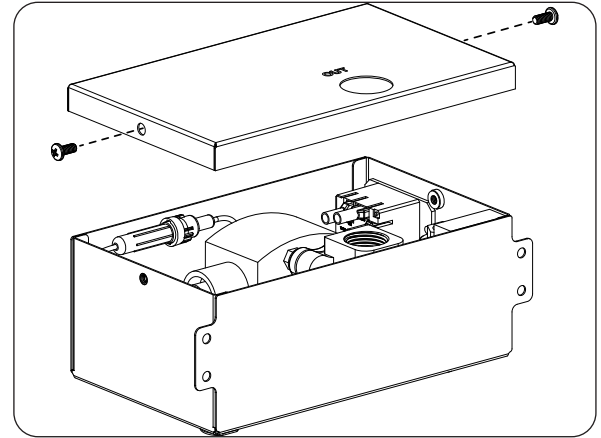

Fig. 59-2 Remove access panel of valve box
4. Use a Phillips screwdriver to remove the access panel of the valve box (see Fig. 59-2).